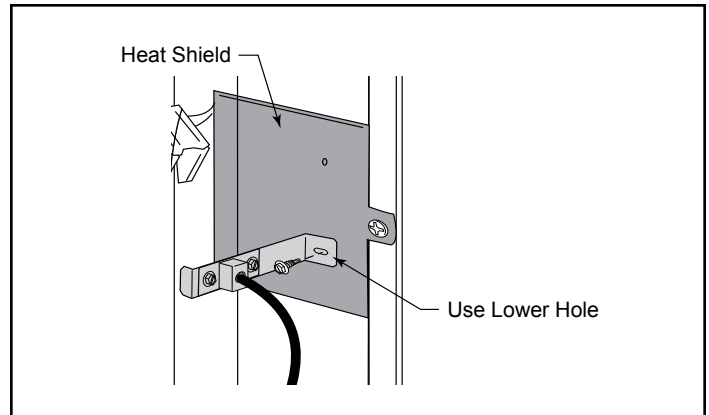

Figure 12 - Attach snapstat bracket.
6. Install the rheostat into the switch box. Feed the fan rheostat wire harness through the cut out in the rear shroud. Insert the rheostat control shaft through the switch box hole while aligning the locator pin with the smaller hole. Install the retaining nut and knob onto the control shaft. (Figure 12)
8. Reinstall the rear shroud and tighten the four (4) screws.